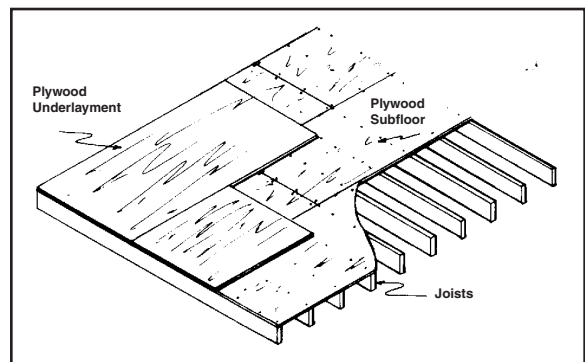

Fig. 2. Typical subfloor structure
- Double-layer construction and a minimum of 1” thick (2.5cm); Figure 2 is an example.